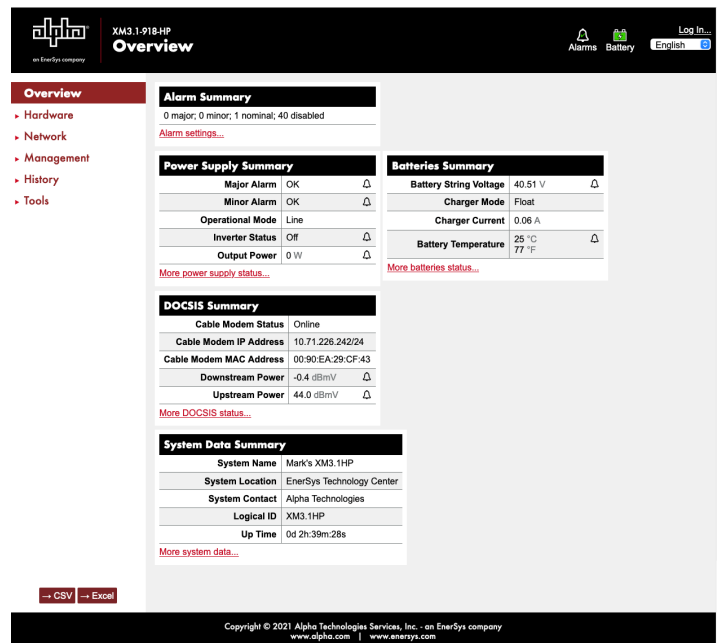

Fig. 2-30, XM3.1-HP™ Power Supply Overview Web Page
4. The transponder's web server home page will appear (**Fig. 2-30**). **Note: This may take up to a minute when the transponder is initially powered up.**
7. The Internet Protocol (TCP/IP) Properties dialog box will open (**Fig. 2-30**). Select "Use the following IP address". Enter the values as shown (i.e. IP address 192.168.100.2 and Subnet mask 255.255.255.0). Record the existing IP address and Subnet mask in order to later return the computer to its original state.